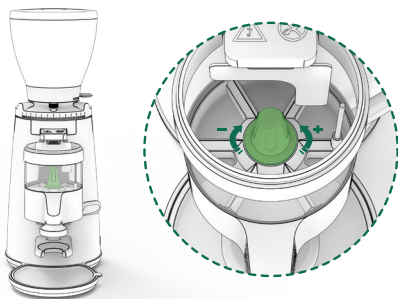

Fig. 3
- Remove the dosing lid (14) and turn the adjustment bolt (12); in a clockwise direction we will obtain a smaller dose of coffee, and in an anti-clockwise direction to obtain a larger dose (Fig. 3).